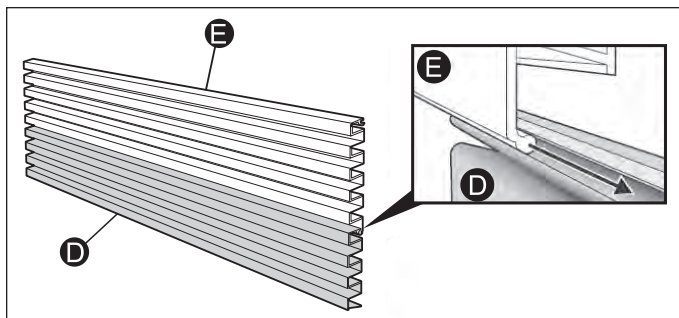

Figure 2-11.
2. Slide top grill (E) and bottom grill (D) together. Make sure the ends are flush, then tape together to prevent parts from sliding. (See Figure 2-11).